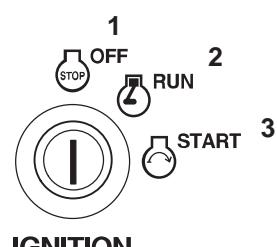

Figure 14
3. Let the engine idle for 60 seconds (Fig. 14).
4. Turn the ignition key to the off position and remove the key (Fig. 14).